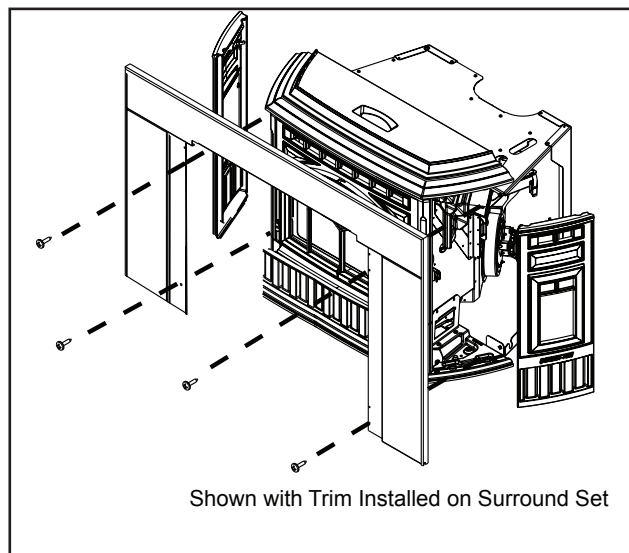

Figure 20.5
8. Remove both left and right cast sides from insert. **Figure 20.5**
9. Carefully slide surround and trim over the top of the insert into place matching the mounting holes on the panel with the mounting holes on the insert. Secure with screws provided. **Figure 20.5.**
3. Remove the 2 cast sides and slide the assembled trim over the assembled surround set. **Figure 20.5**
4. Carefully slide surround and trim over the top of the insert into place matching the mounting holes on the panel with the mounting holes on the insert. Secure with screws provided. **Figure 20.5**